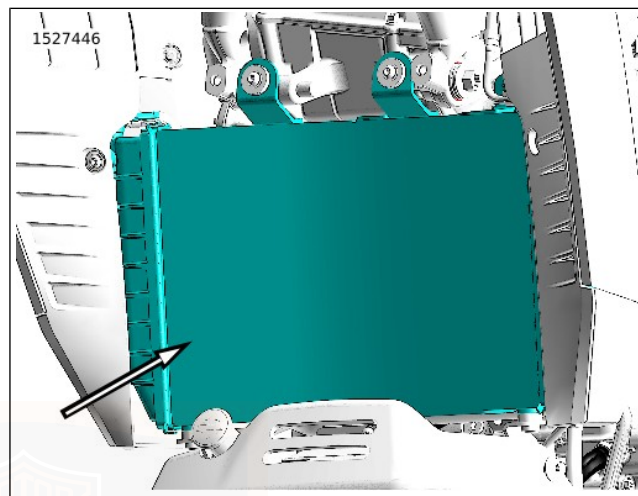

Figure 65. Radiator Fins
1. See Figure 65. Clean debris from radiator fins.